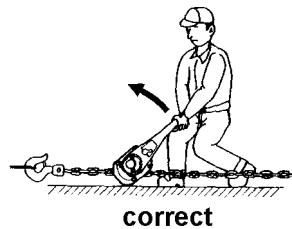

Fig. 5
- During pulling operations, the operator should stand near the side of the top hook on the opposite side of the lever. If the hand should slip off the lever, the lever will spring back away from the operator, (Fig. 5).